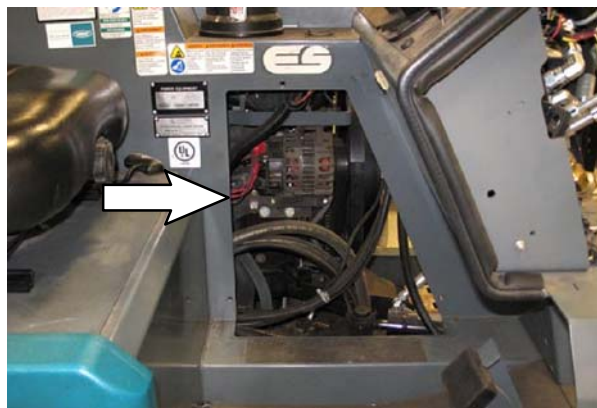

FIG. 1
1. Remove the engine access panel from the operator compartment. Set the access panel and hardware aside. (Fig. 1)